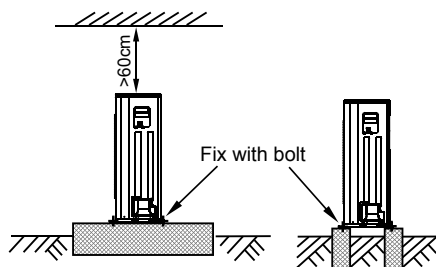

Fig.6-15
- Make concrete foundation according to the specifications of the outdoor units. (Refer to Fig. 6-15)
- Fasten the feet of this unit with bolts firmly to prevent it from collapsing in case of earthquake or strong wind. (Refer to Fig. 6-15)